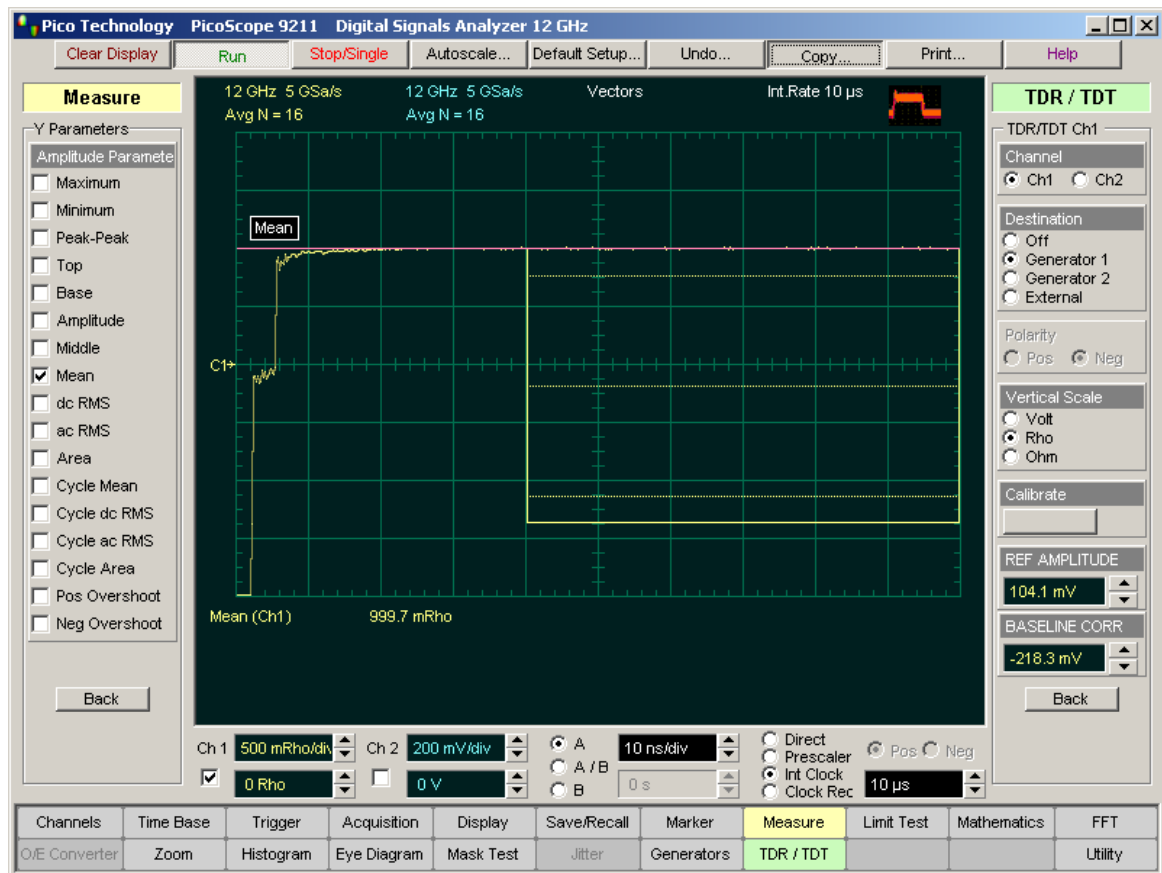

Figure 3
4. Click Rho in the Vertical Scale menu. See Figure 3.
Figure 3 shows that the rho value is near 1 rho when the transmission line is open-circuit. The Mean measurement shows 999.7 mrho.